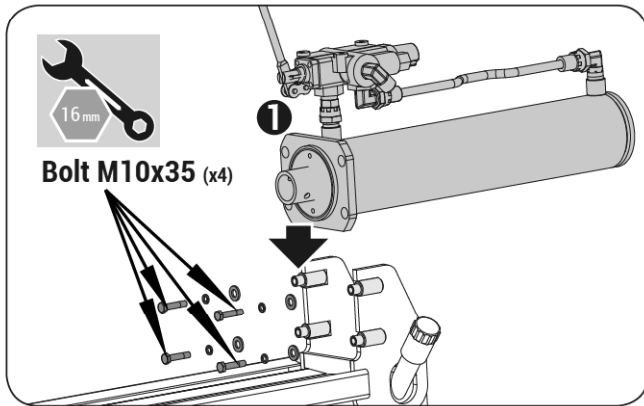

Figure 4
1. Position the cylinder on the beam so that the mounting holes align with the holes in the beam bracket. Secure the cylinder with M10x35 bolts, spring washers, and flat washers in position, but do not tighten them. (See **Figure 4**)